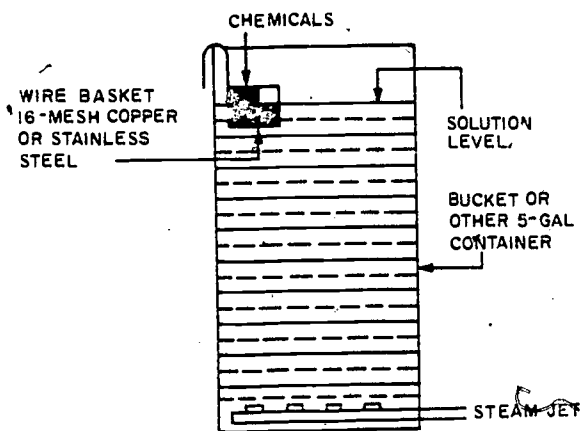

Figure 27. The apparatus for mixing chemicals.
5. *Apparatus for mixing.* Placing a small steam jet in the bottom of the dissolving vessel will facilitate chemical mixing. Phosphate and tannin are dissolved easily by placing the chemical in a fine-mesh wire basket and suspending the basket just beneath the water surface in the mixing container, as shown in figure 27.